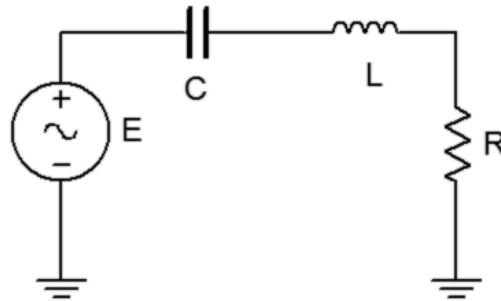

Figure 13.1
1. Using Figure 13.1 with  $R=470\ \Omega$ ,  $L=10\ \text{mH}$ , and  $C=10\ \text{nF}$ , determine the theoretical resonance frequency and  $Q$ , and record the results in Table 13.1. Based on these values determine the upper and lower frequencies defining the bandwidth,  $f_1$  and  $f_2$ , and record them in Table 13.1.
2. Build the circuit of Figure 13.1 using  $R=470\ \Omega$ ,  $L=10\ \text{mH}$  and  $C=10\ \text{nF}$ . Place a probe across the resistor. Set the output of the generator to a  $1\ \text{V}$  p-p sine wave. Set the frequency to the theoretical resonance frequency of Table 13.1. Make sure that the *Bandwidth Limit* of the oscilloscope is engaged for both channels. This will reduce the signal noise and make for more accurate readings.
7. Build the circuit of Figure 13.1 in a simulator. Using AC Analysis, plot the voltage across the resistor from 1 kHz to 100 kHz for both the high and low  $Q$  cases and compare them to the plots derived from Tables 13.2 and 13.4. Be sure to include the  $50\Omega$  source resistance and coil resistance in the simulation.